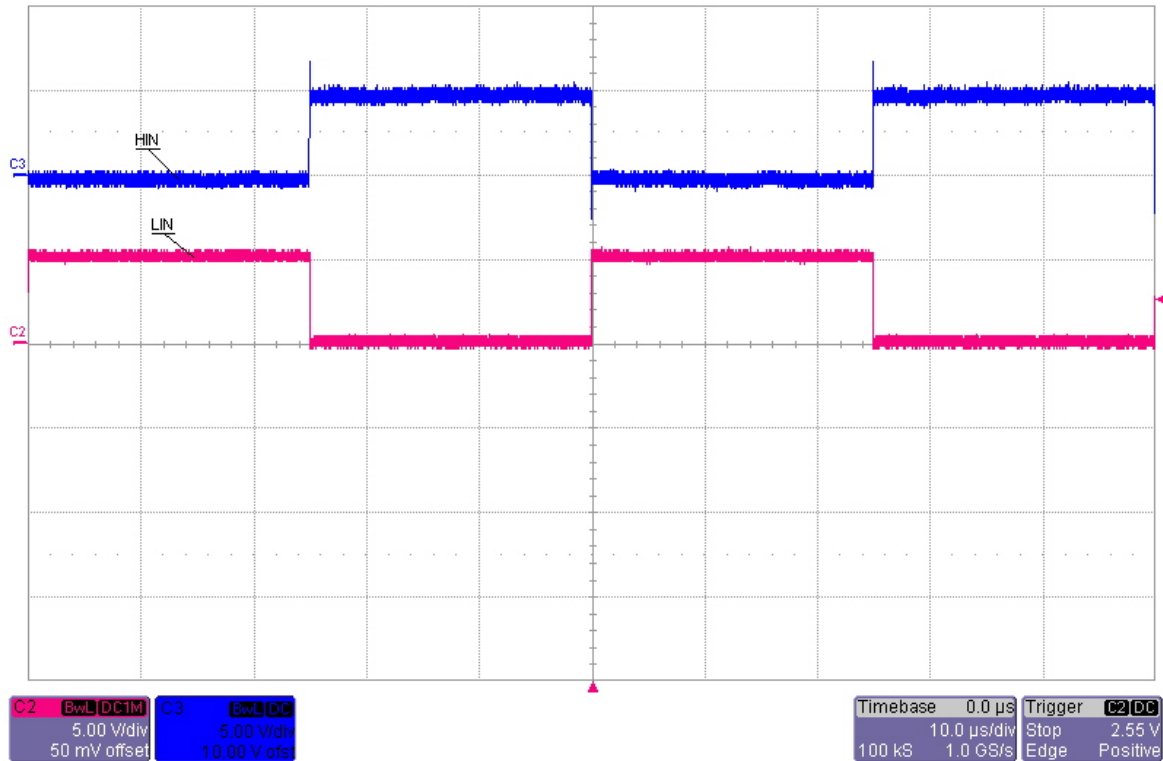

Figure 5. HIN and LIN signals from pulse generator
- 2) Set both channels of the pulse generator to 20 kHz, +5V amplitude 50% duty cycle square wave, each channel referenced to 0V. Set channel two 180° out of phase with channel one, as shown in Figure 5.